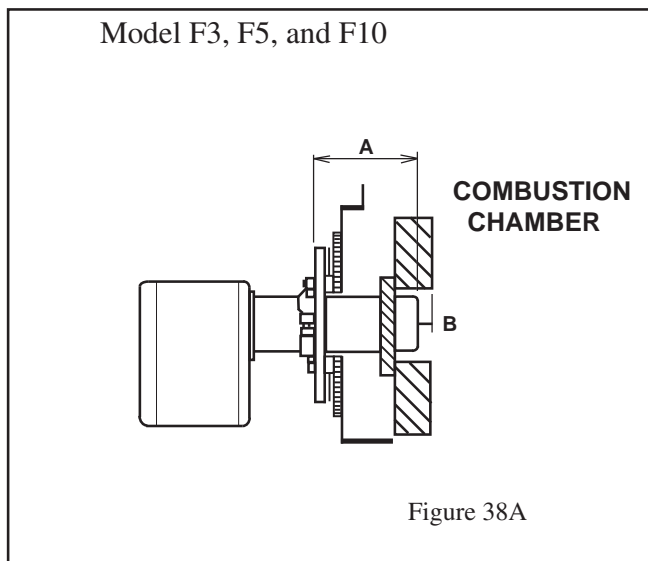

Figure 38A
C. The burner may now be attached to the boiler by inserting the air tube through the burner access hole (8) and into the appliance, aligning the holes on the mounting flange with the threaded studs on the boiler door. Push the burner forward until the mounting flange is seated against the gasket.
D. Secure the burner to the boiler door with the four (4) locking hex washer head nuts that are included with the boiler ship with hardware.
E. Visually verify proper air tube insertion and alignment into the boiler door. Dimension "B" should be at least 1/4". The mounting flange is welded to the air tube and the end cone should align at least 1/4" back from the outer edge of the refractory on the inside of the boiler door. (See Figures 38A & 39B). The welded mounting flange provides alignment of the air tube. No further adjustment recorded.